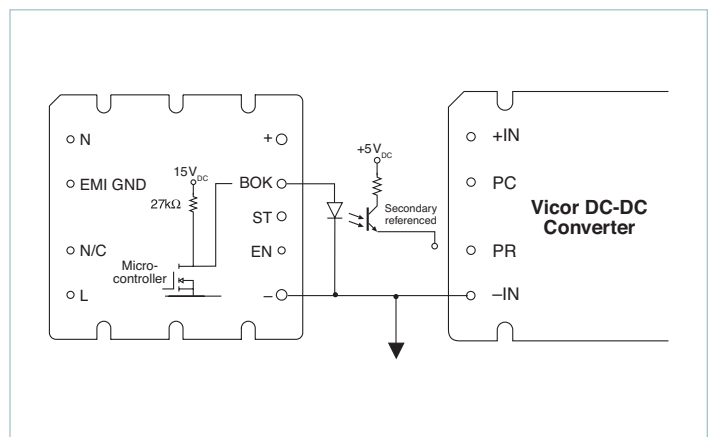

Figure 8.5 — Bus OK (BOK) isolated power status indicator
**Bus OK (BOK) Pin:** (Figure 8.5) The Bus OK pin is intended to provide early-warning power-fail information and is also referenced to the negative output pin.